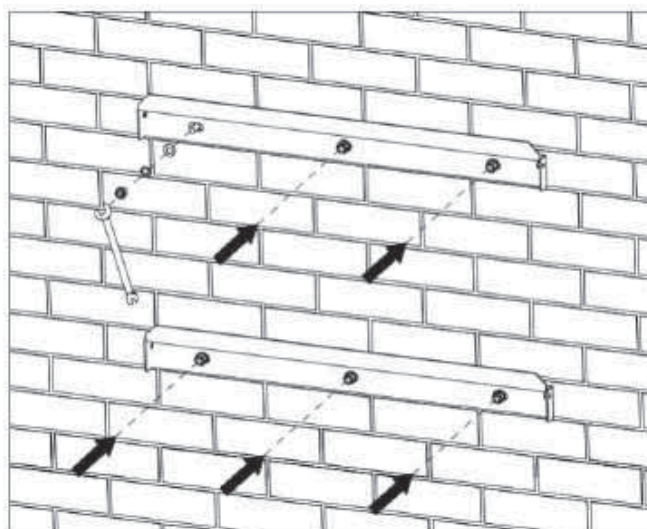

Figure 4.10 Fix the installation bracket
(4) Fix the installation bracket onto the expansion bolts and ensure the installation is firm enough (tightening torque is $13\text{N}\cdot\text{m}$). As shown in Figure 4.10.